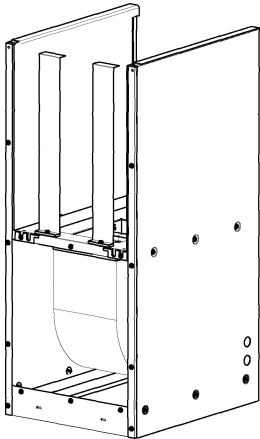
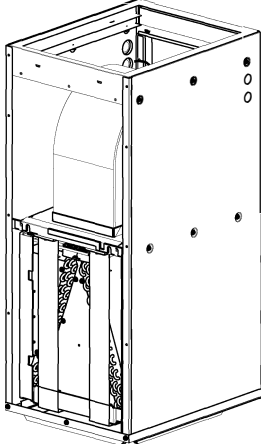

Figure 1: Downflow Bracket (A) attached to the chassis of the fan cabinet
Figure 2: HEX assembly supported by Downflow Bracket (A)
Step. 7b Screw in Downflow Bracket (A) as shown in Figure 1. Figure 2 shows how the HEX assembly will be supported by the Downflow Bracket (A) when in the final installation orientation.